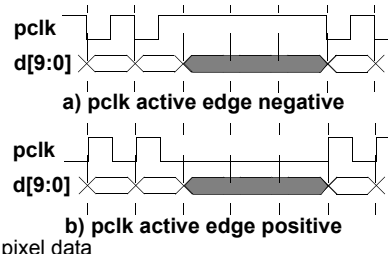

Figure 43. pclk in Data Ready Mode
- In data ready mode, (the **PixClkMode** bit of DVBUSCONFIG1 register is set to a logic 1), the pixel clock output pin **pclk** will produce a pulse with a specified level every time valid pixel data appears on the digital video bus **d[9:0]** as shown in Figure 43.